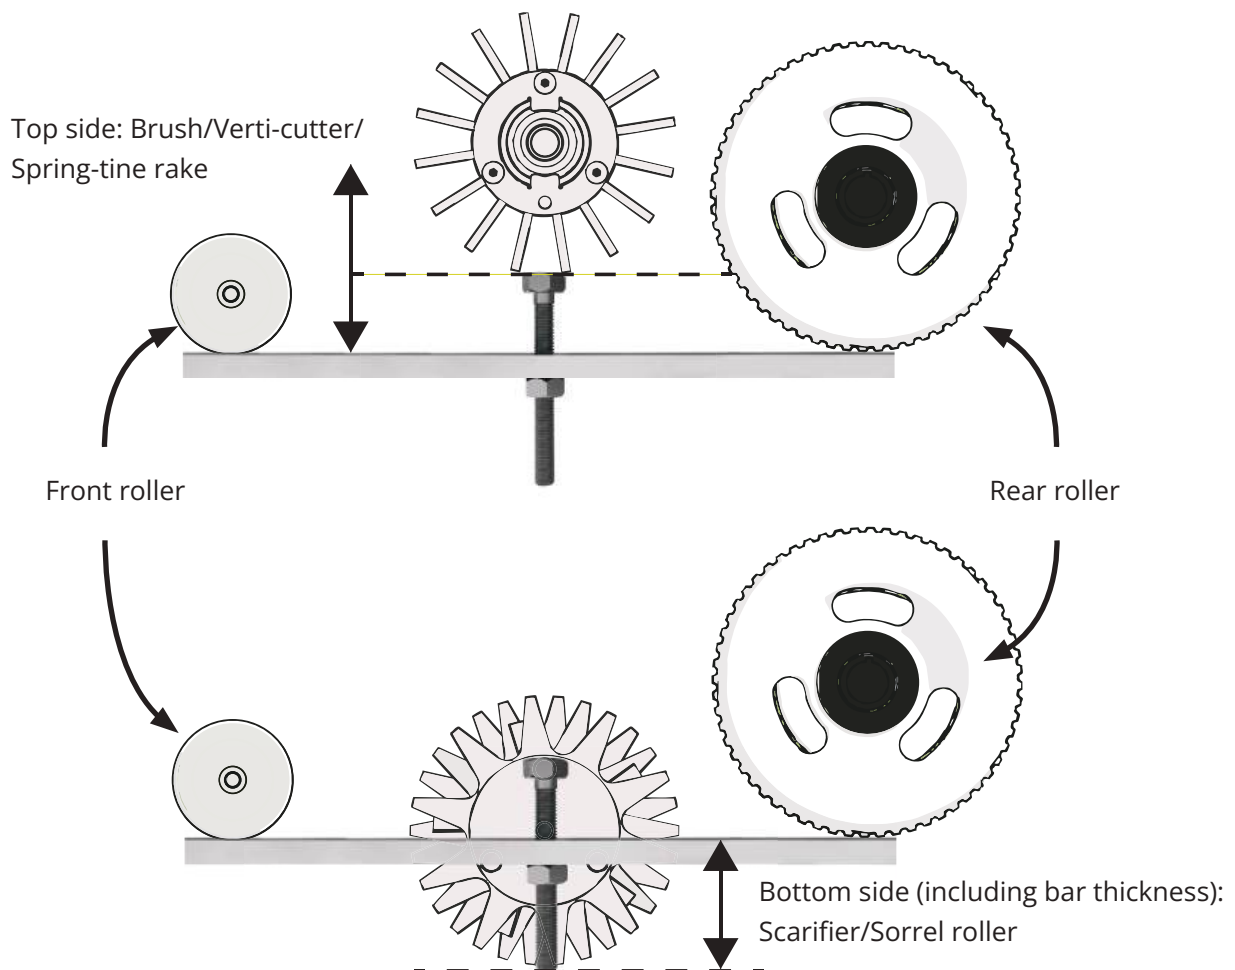

Fig.10. Setting bar measurement for above/below ground cassettes.
the setting bar (to the head or end, respectively) is to that desired (Fig. 10). To note:
7. Rotate the toothed gear to raise or lower the front roller. While doing this, position up the setting bar again between the front and rear roller. Stop adjusting when either the tips of the brush hairs/verti-cutters are level with the bolt head, or the tips of the scarifier/sorrel roller are level with the bolt end. (Fig. 10). Tighten lightly the top clamp nut.